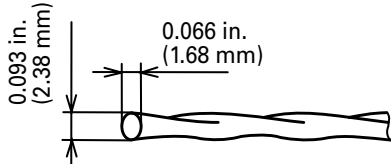

Fig. 16
Cord diameter: Fig. 16
- (1) Prepare 13.12 ft. (4 m) of genuine nylon line in Fig. 16. (Code No.335235)